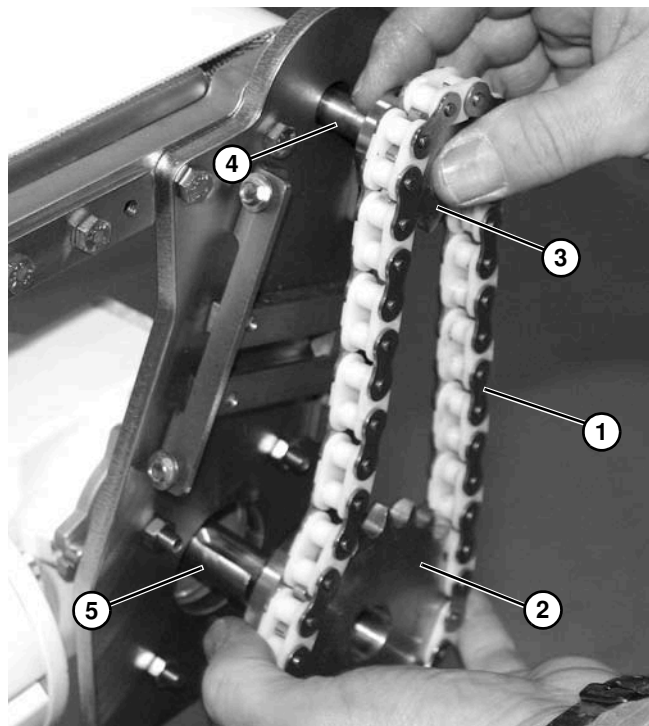

Figure 60
6. Remove timing chain (**Figure 60, item 1**) along with drive sprocket (**Figure 60, item 2**) and driven sprocket (**Figure 60, item 3**) from conveyor input shaft (**Figure 60, item 4**) and gearmotor output shaft (**Figure 60, item 5**). Make sure to retain sprocket keys.